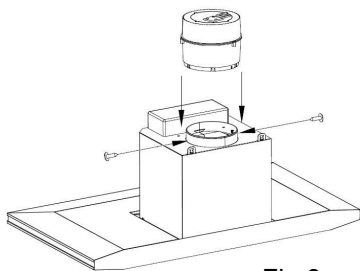
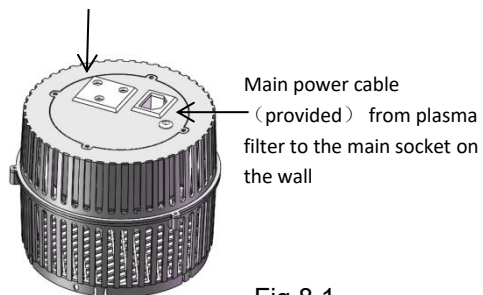
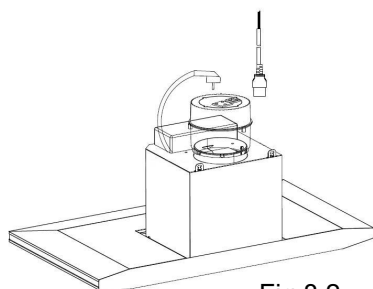
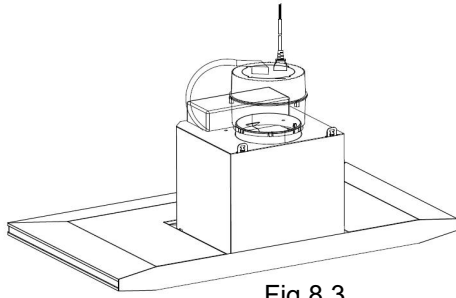

Fig.8
Fig.8.1
Fig.8.2
Fig.8.3
#### Step 3 (Fig.8, Fig.8.1, Fig.8.2, Fig.8.3)
- Mount the plasma filter carefully and level on the motor housing. Use the screws provided (ST3.9\*12mm screws) to clamp the filter firmly. (Fig.8)
- Check the corresponding power sockets before plugging in the power cable. (Fig.8.1)
- Connect the existing power cable from the extractor hood to the plasma filter universal socket (Fig.8.2)
- Connect the main power cable (provided) from the plasma filter to the main power socket on the wall. (Fig.8.3)